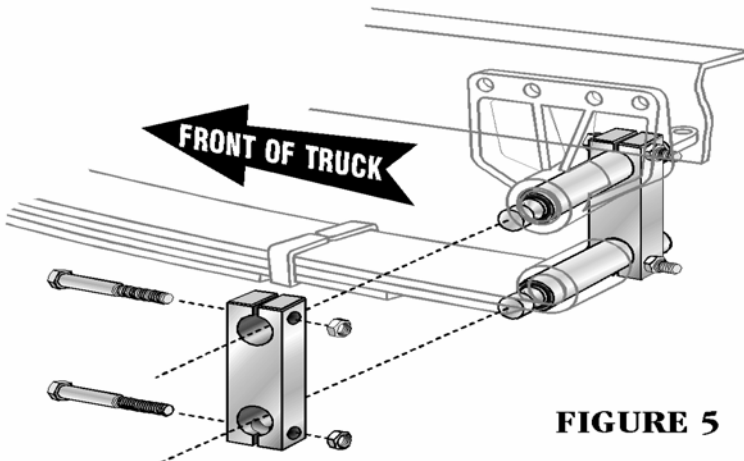

FIGURE 5
2. Install shackle side bar on ends of pins protruding from the frame hanger bracket and the leaf spring eye (see Figure 5).
3. Lubricate threads of Hex Head Cap Screws with a lightweight oil. Install Hex Head Cap Screws and Hex Head Stover Locking Nuts (see Figure 5).
Do not tighten Hex Head Cap Screws and Hex Head Stover Locking Nuts at this time (see Figure 5).